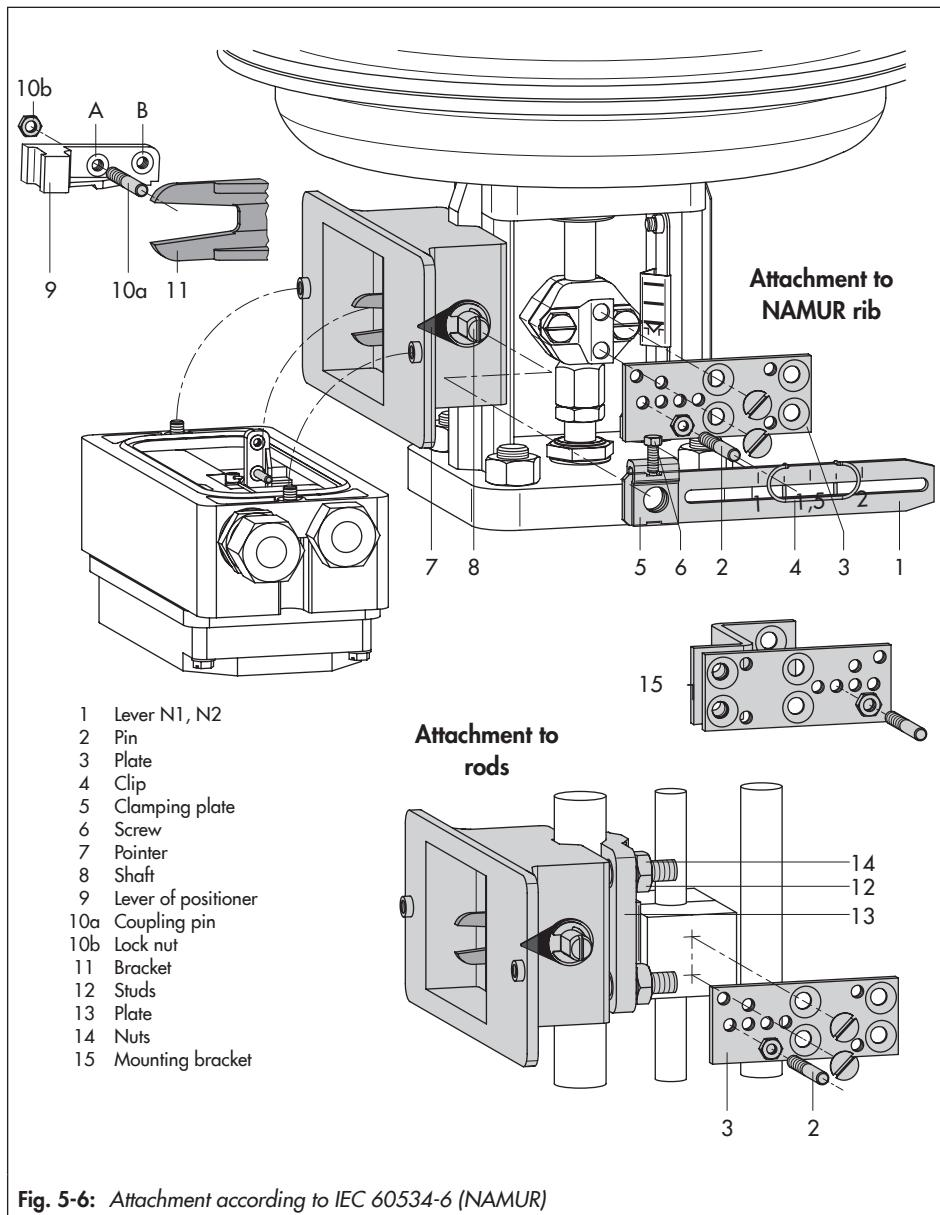

Fig. 5-6: Attachment according to IEC 60534-6 (NAMUR)
An adapter housing is used for attachment (Fig. 5-6). The valve travel is transmitted by the lever (1) and the shaft (8) to the bracket (11) of the adapter housing and then passed on to the pin (10a) on the lever of the positioner. To ensure that the pin (10a) is proper-
Mounting position on the plate looking onto the travel pick-off (20), actuator facing upward (see also Fig. 5-6)
- See Fig. 5-6
2. Move the shaft (8) in the adapter housing so that the black pointer (7) matches the cast marking on the adapter housing.
3. Fasten the clamping plate (5) in this position using the screw (6).
4. Screw the pin (10a) into the positioner lever on the side where the press nut is located. Lock it in position with the hex nut on the other side, observing the mounting position A or B according to Table 5-1 and Fig. 5-6.
5. Place the positioner on the adapter housing, taking into account the mounting direction. Fasten it, making sure that the pin (10a) rests against the bracket (11).